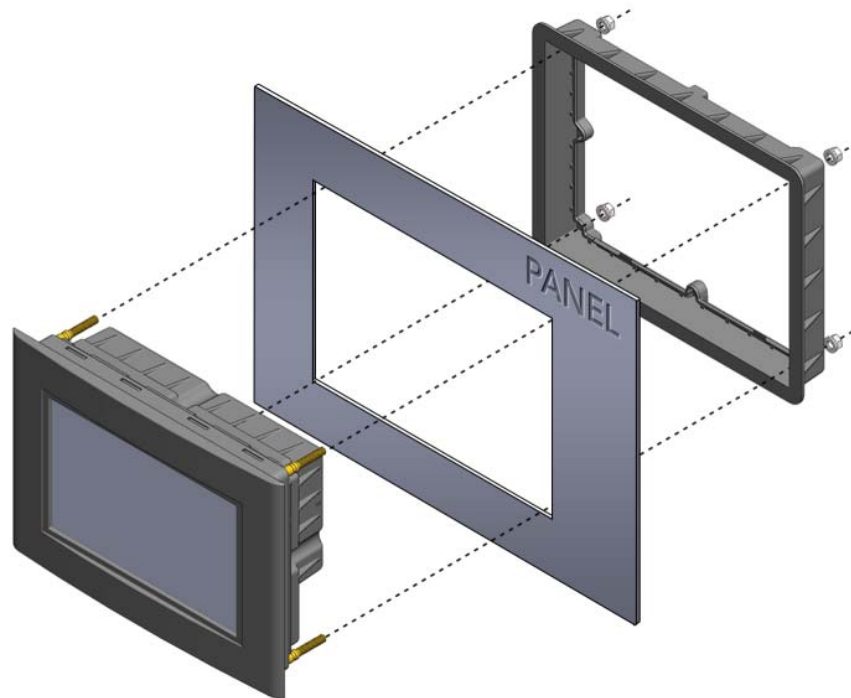

Figure 40
3. On the back of the panel, align the terminal mounting ring holes with the mounting studs, and place the mounting ring against the back of the panel. Refer to Figure 40 for the loca-